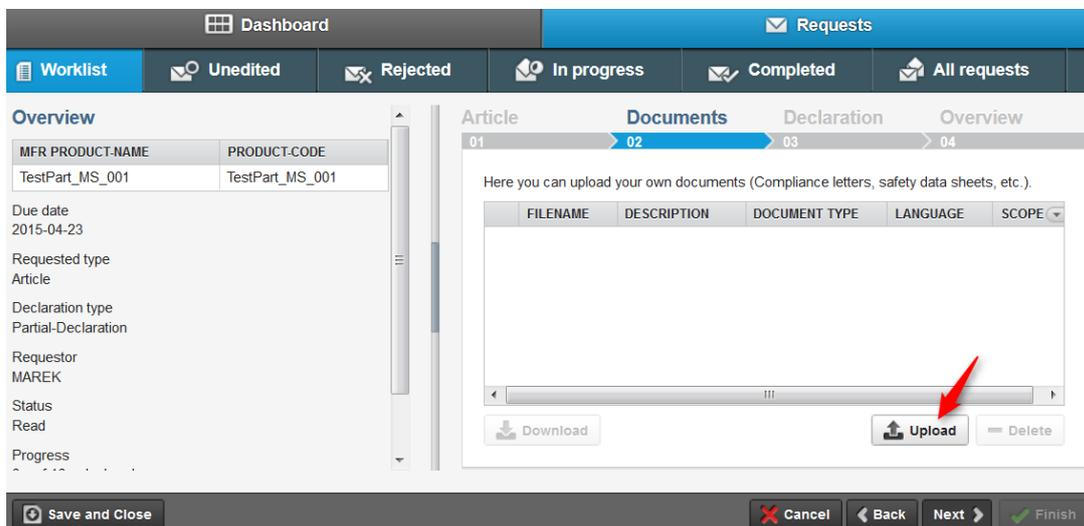
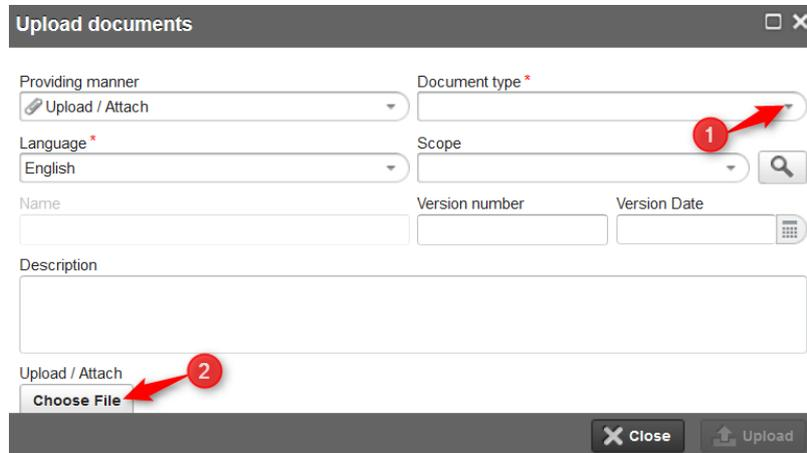

Figure 11: Start uploading of documents
Figure 12: Uploading of documents: parameter settings
Click on the “Upload” button to start the document upload (see Figure 11). Subsequently, the “Upload documents” mask will open (Figure 12). Here you have to define the document type (1) (mandatory) and select the file(s) from your local storage (2).